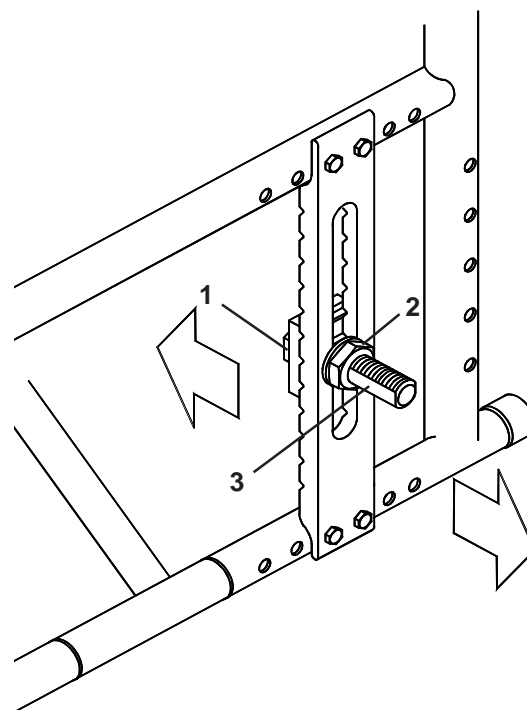

Fig. 38
To adjust the rear wheelbase (Fig. 38), loosen the inner (1) and outer (2) axle sleeve retaining 28mm A/F nuts. Screw the nuts along the axle sleeve (3) until the desired wheelbase is found.